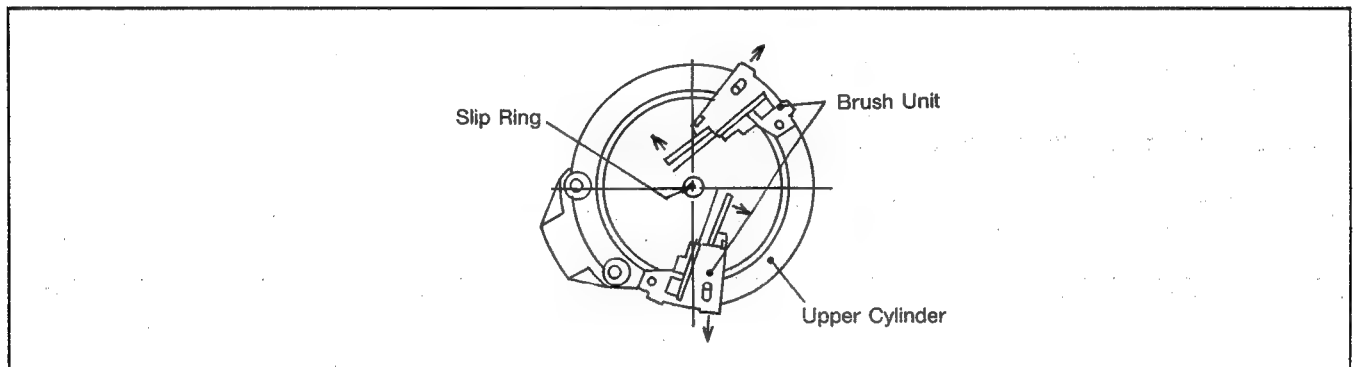

Fig. 7-3-2
- 2) Loosen four pieces of screw (b) and move the Brush Unit position horizontally until the Brushes are free from Slip Ring as shown in figure 7-3-2.